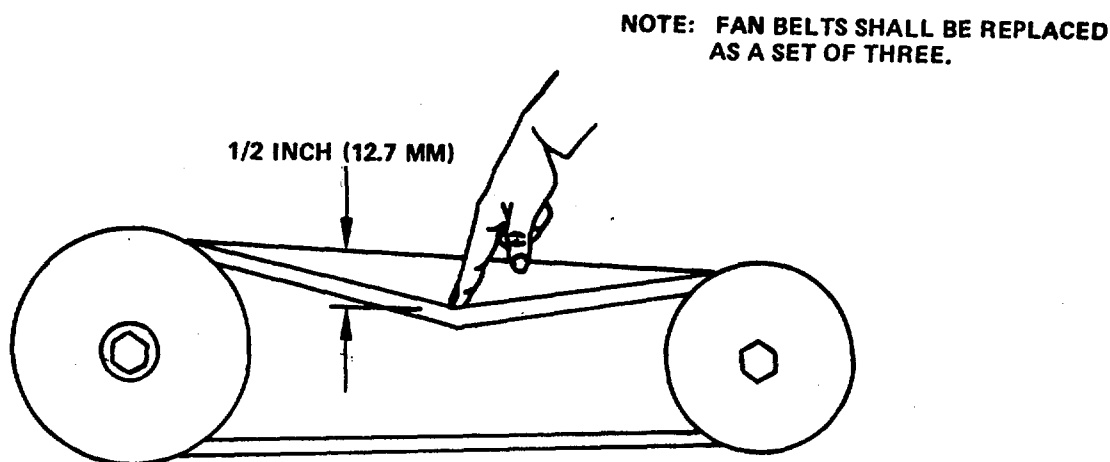
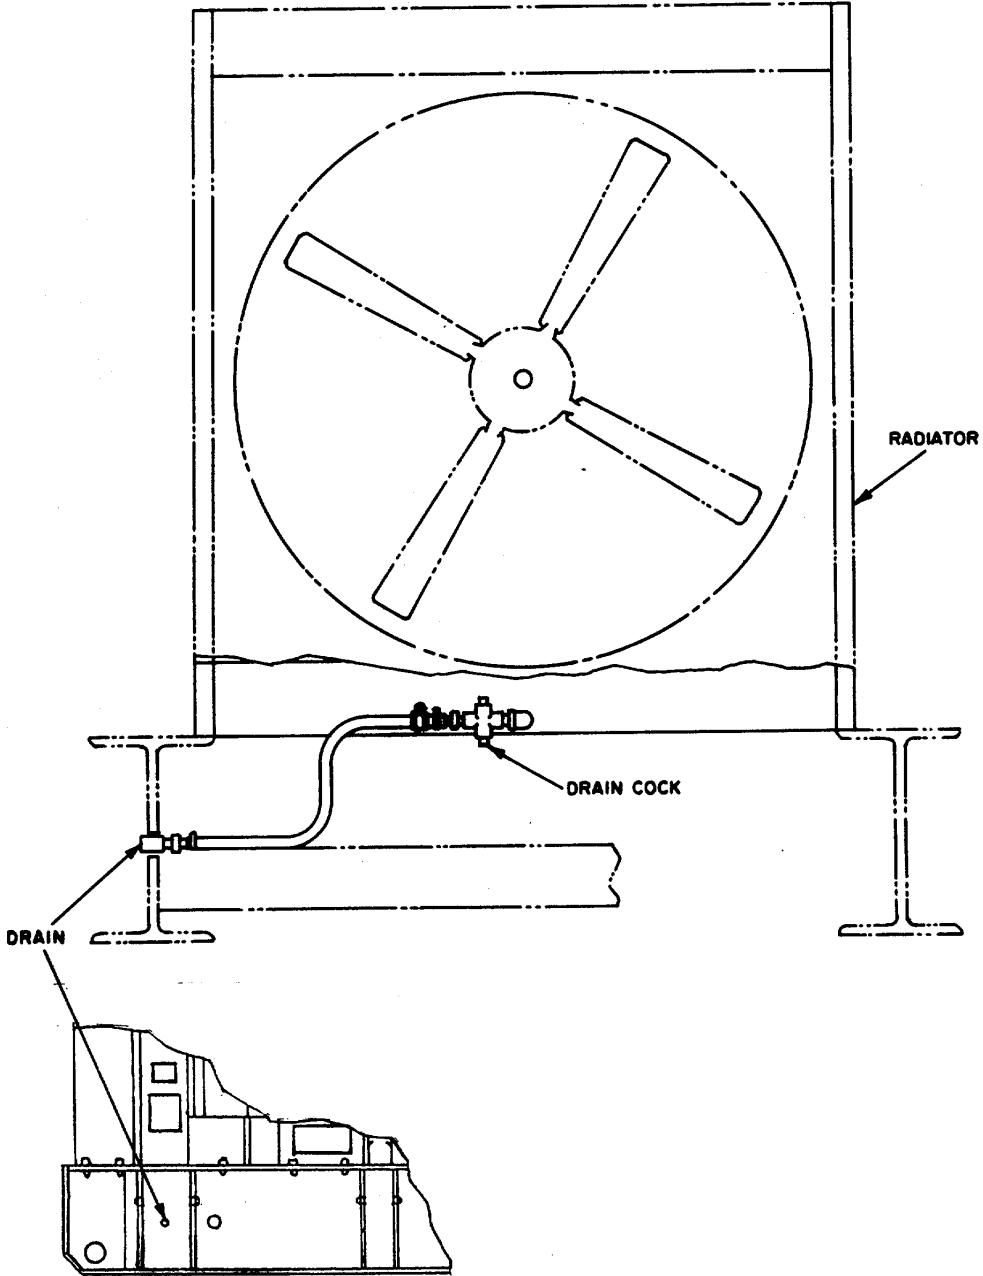
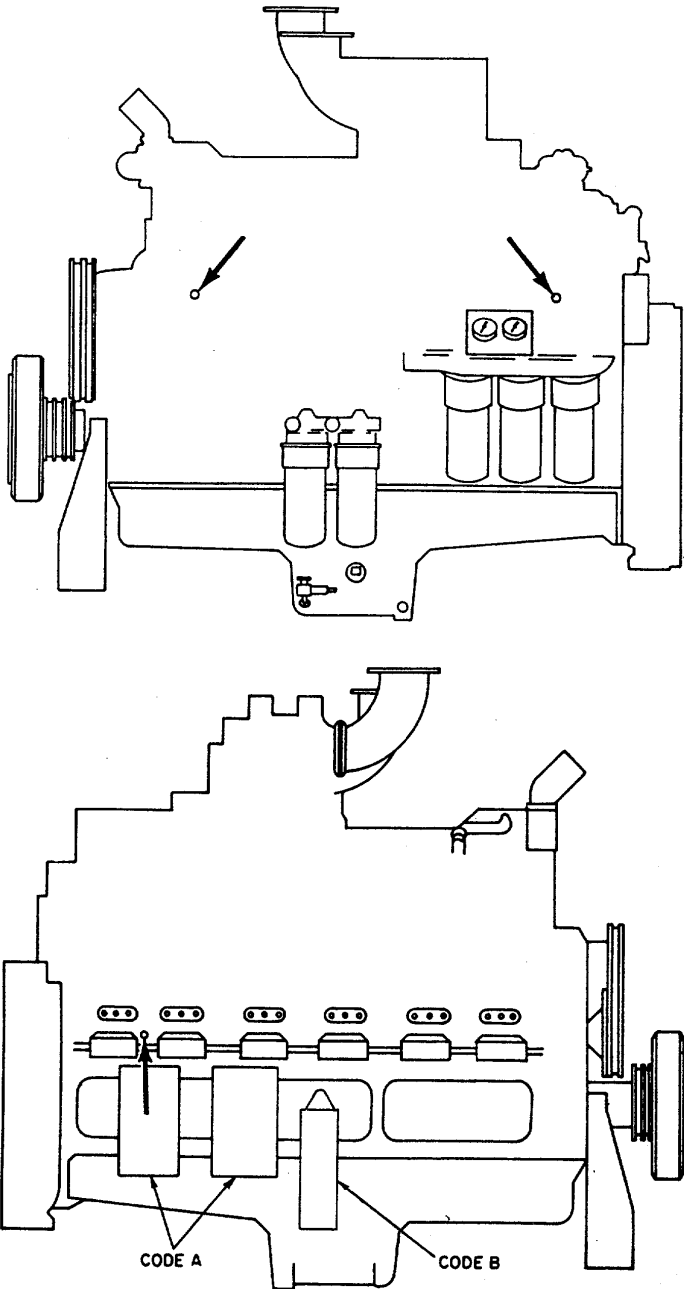

Figure 4-1. Fan Belt tension Check
Figure 4-2. Cooling System Drain and Shut -off Cock
Figure 4-3. Location of Engine Water Drains
- (6) Check fan belts to see that they do not move more than 1/2 inch (12.7mm) when applying pressure with the thumb against each belt (see figure 4-1).
- (7) Reinstall fan guard and mounting screws and nuts.
- (1) Inspect radiator for damage.
- (2) Inspect radiator fan drive belt for proper tension (figure 4-1). Code A.
- (3) Check that pulley guard and vibration damper guard are secure.
- (4) Inspect all air cleaner connections for tightness.
- (5) Inspect the fuel, water, and coolant lines for cracks and leaks.
- (6) Inspect that the cooling system shut-off cock (figure 4-2) is closed and the three engine water drain points (figure 4-3) are closed.